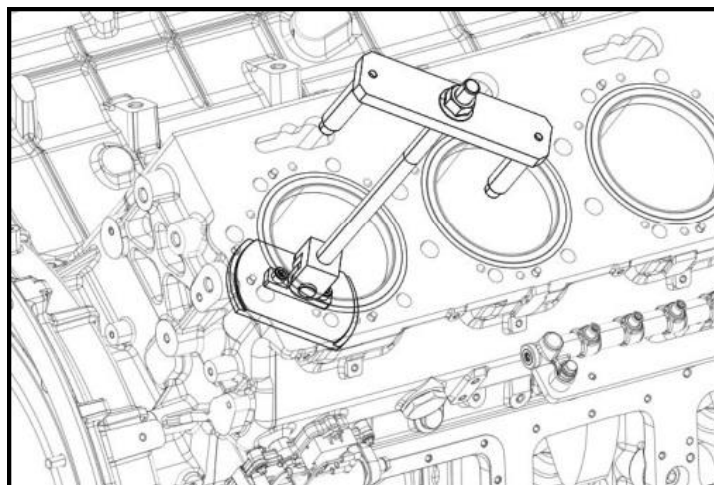

Figure 94.
2. Install the extraction tool (Figure 94).